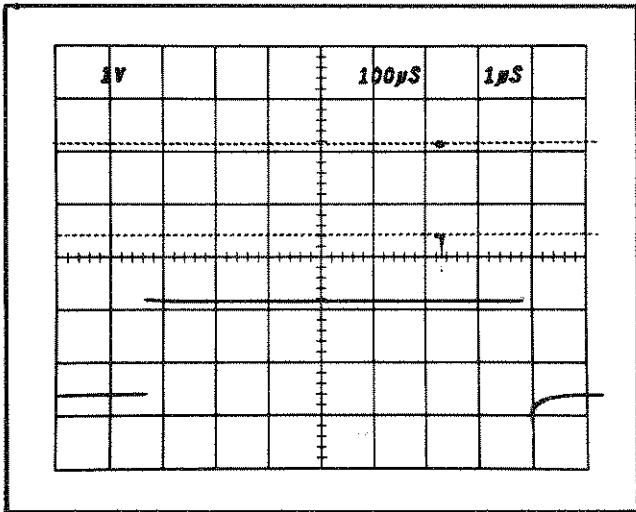

Fig. 2-13. Using delayed sweep for sweep magnification.
**Example:** Assume the first dial setting is 2.23 and the second dial setting is 7.73 with the TIME/DIV set to 5  $\mu$ s (see Fig. 2-13).
**Example:** The apparent magnification of the display shown in Fig. 2-13 with an A TIME/DIV setting of .1 ms and a B TIME/DIV setting of 1 µs is: